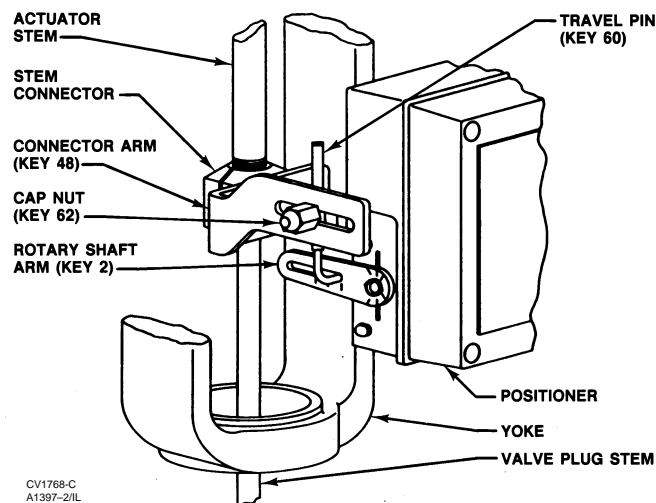

Figure 4. Isometric View Showing Motion Feedback Arrangement and Typical Stem Connection
2. Normal position is shown in figure 4.
7. Slip the round end of the travel pin (key 60) into the rotary shaft arm (key 2) slot as shown in figure 4.
8. Slide the square end of the travel pin into the pin holder and pin lock (keys 61 and 59). Place the pin lock and holder into the slot in the connector arm (key 48). Screw the cap nut (key 62) onto the pin lock (key 59), but do not tighten.
10. Position the travel pin so that it is perpendicular to the connector arm and aligns with the correct actuator stem travel index on the rotary shaft arm. Tighten the cap nut (key 62 in figure 4).
- **For standard travel pin setting** (that is, with the travel pin setting equal to total actuator travel). Stroke the actuator to each end of its travel. At each end of travel, the 30-degree index marks on the rotary shaft arm should align with the case index marks. If the index marks are not in line, loosen the cap nut (key 62) and slide the travel pin (key 60) in the rotary shaft arm slot until the 30-degree index marks align with the case index marks. Be sure the